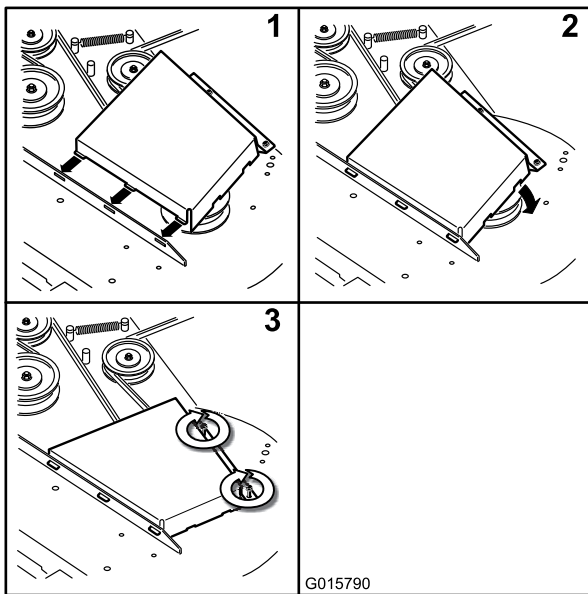

Figure 68
4. Install the belt covers (Figure 68).